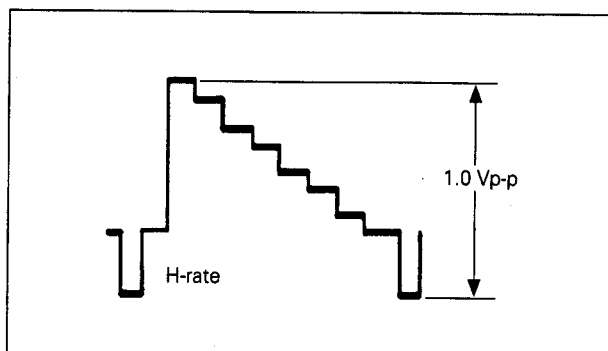

Fig.3-4-7 PB Y level
- (1) Connect an oscilloscope to Y OUT TERMINAL.
- (2) Record a color bar signal in S-VHS(VHS) mode and play it back.
- (3) Adjust **SET** or **SELECT** button for 1.00 $\pm$ 0.03Vp-p as shown in Fig.3-4-7.
- (4) Set normal VCR mode by pressing **MENU** button so adjustment data is memorized.